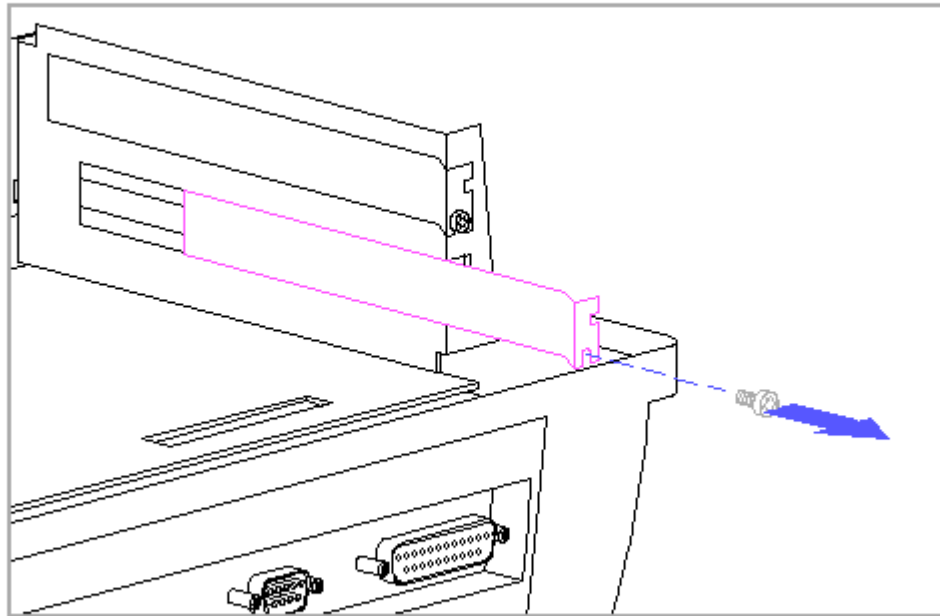

Figure 9-9. Removing the Expansion Slot Cover
2. If an expansion slot cover is located where the board will be installed, remove it by removing the retaining screw (Figure 9-9).